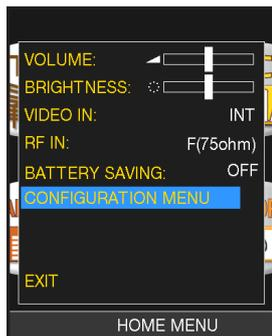

FIG. 1*
- Press the volume key and select "configuration menu" (fig. 1);